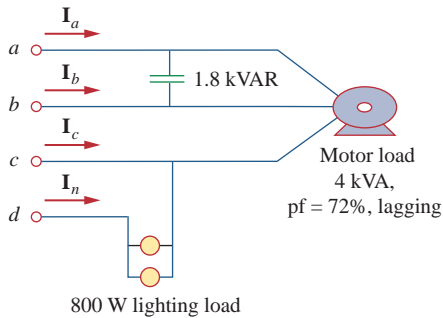

Figure 12.76
- *12.84** Figure 12.76 displays a three-phase delta-connected motor load which is connected to a line voltage of 440 V and draws 4 kVA at a power factor of 72 percent lagging. In addition, a single 1.8 kVAR capacitor is connected between lines a and b , while a 800-W lighting load is connected between line c and neutral. Assuming the abc sequence and taking $\mathbf{V}_{an} = V_p \angle 0^\circ$, find the magnitude and phase angle of currents \mathbf{I}_a , \mathbf{I}_b , \mathbf{I}_c , and \mathbf{I}_n .